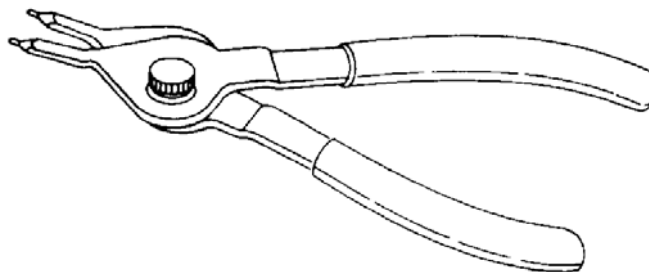

Figure 6-7. Snap ring pliers.
g. **Snap Ring Pliers.** These snap ring pliers are for both inside and outside the snap rings and fit all the sizes used in A-DEC equipment. Refer to figure 6-7.